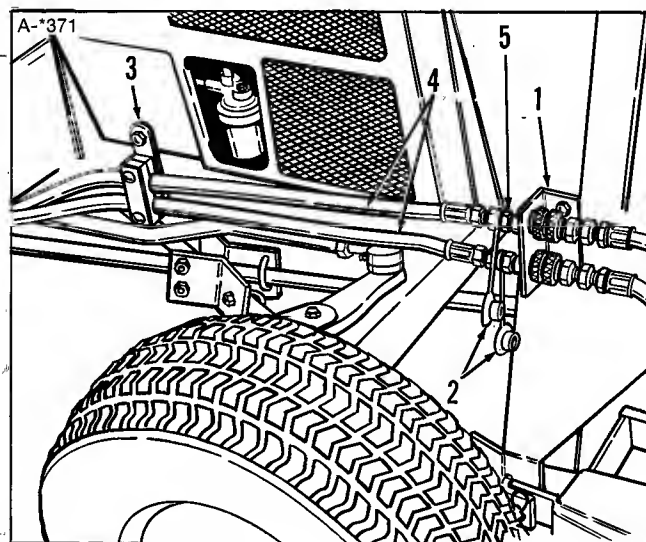

Figure 6.
7. Install the mounting plate (1, figure 6) as follows.
9. Install nose pieces (6), hoses (7) and cylinder (13) with parts shown.
10. There are two long identical hoses (4, figure 6). (These hoses are item 11 in figure 7). Connect the hoses, plugs (2) and connectors (5) as shown.
12. Remove the screw and washer located at rear of right-hand side panel to install bracket (3, figure 6). Install the bracket with a M8 x 1-1/4 x 20 mm screw and lockwasher.
13. Connect the two hoses with cushion (21, figure 7) and other parts as shown in figure 6.